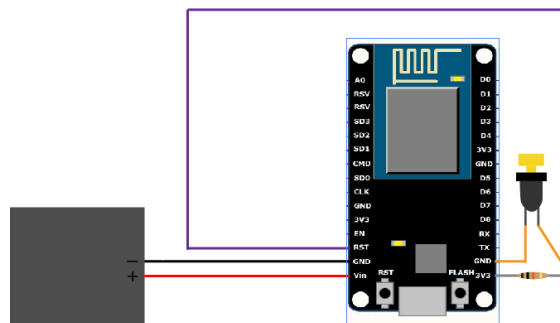

Figure 1 - Wiring Diagram
The circuit is built using the parts listed above and parts are soldered onto the prototyping board into the configuration shown in Figure 1.
1. Measure the length of the wire needed for the button location and the place the hardware is located in the ABR dispenser. See figure 1.